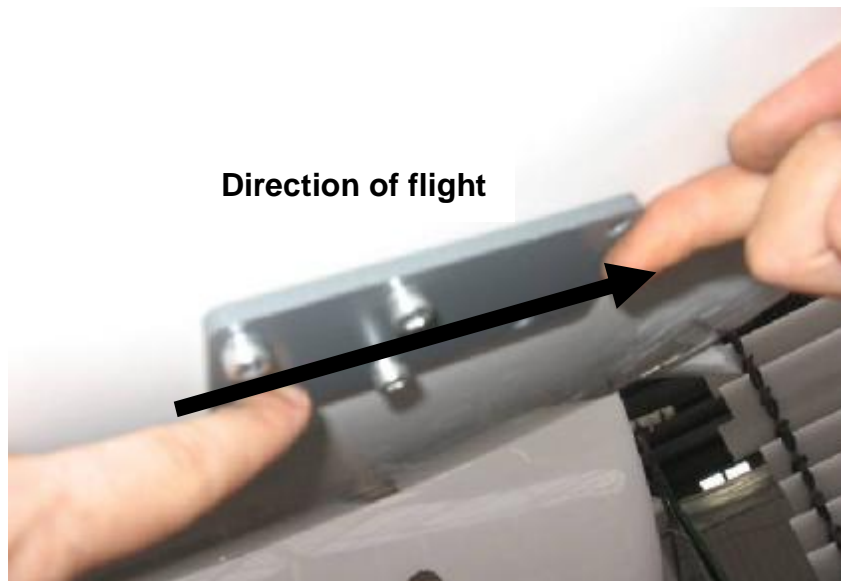

Fig. 12
Temporarily install PVC plate KF27200223 from the outside to the bottom fuselage using four (4) bolts (Fig. 12).